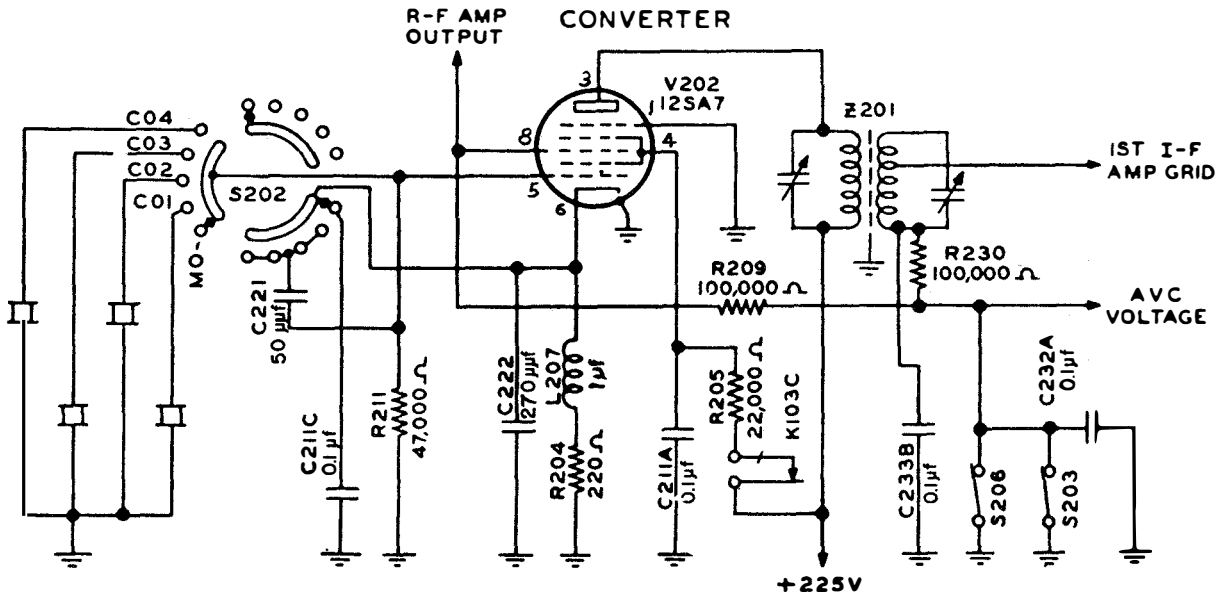

Figure 2-14 Receiver Converter Circuit
c. OSCILLATOR. (See figures 2-14, 2-15.)—It is probable that the receiver, for most of the time, will be